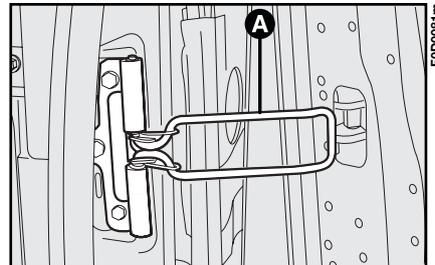

fig. 128
It is possible to increase the opening angle of the two doors to facilitate loading and unloading operations. Release the catches **A-fig. 128**. This will allow opening the doors by approximately 180°.
- release the 90° catch **A-fig. 128**